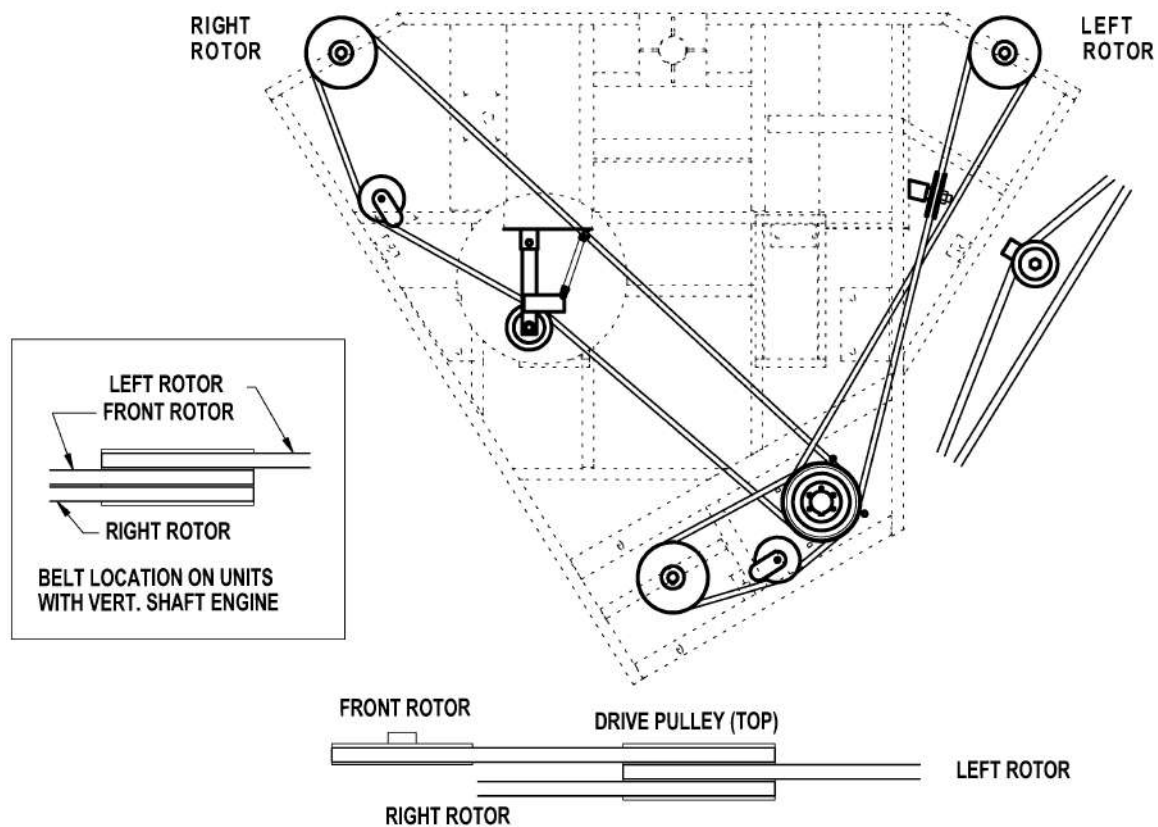

Figure 3
7. See Figure 3. Install the V-belts as follows:
Cross the shorter V-belt into a figure "8" pattern and install it in the **middle groove** of the drive pulley. Install the belt onto the **left rotor** drive sheave and idler as shown in Figure 3.
Position the long belt in the **bottom groove** of the drive pulley. Install the belt onto the drive sheave of the **right rotor**. Route the belt around the two idlers as shown in Figure 3.